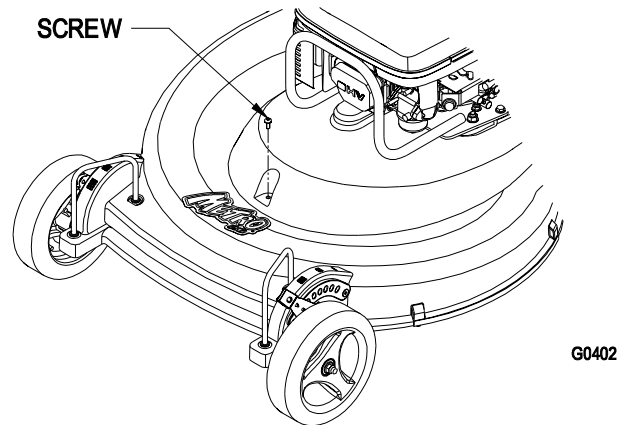

FIGURE 22
3. Remove the screws that secure the belt cover to the lawn mower housing (Fig. 22).